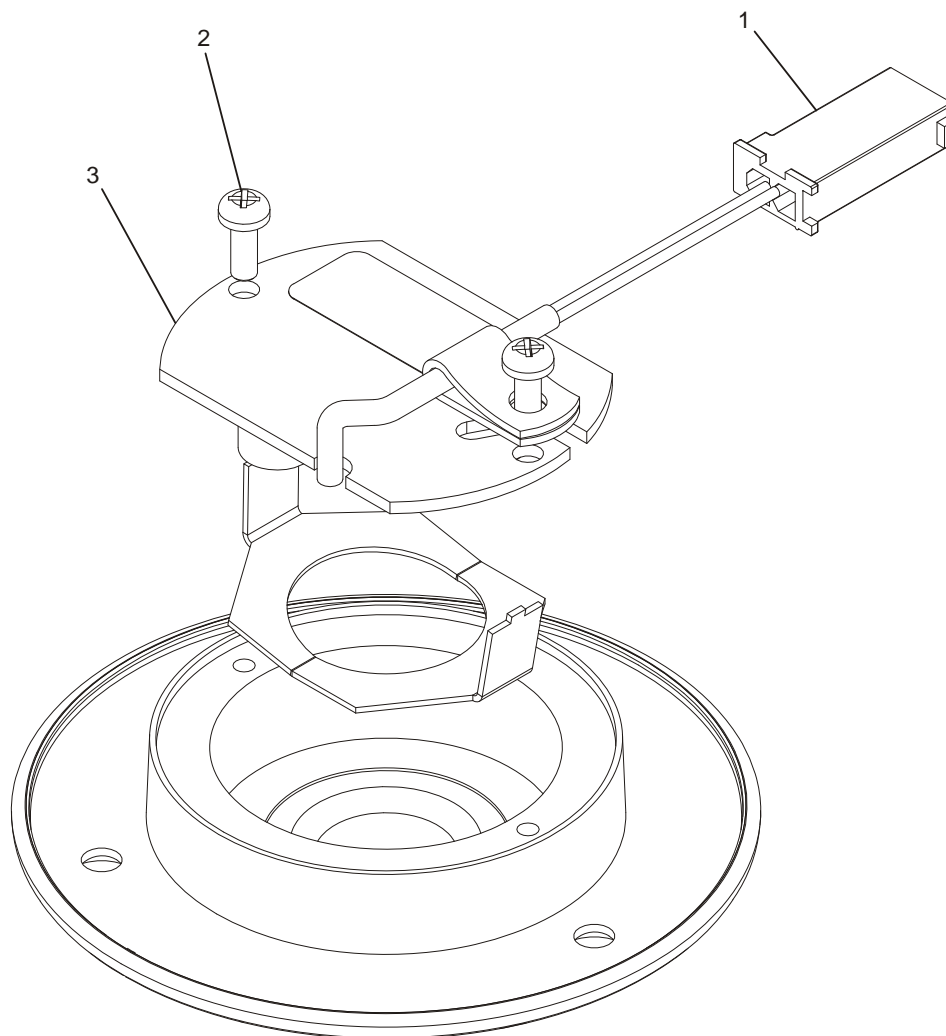

Figure 7-7: Replace Door Closing Indicator
3. Disconnect the 2-circuit plug (1, Figure 7-7).
4. Remove two 3 x 8 mm (1/8 x 5/16 inch) Phillips head screws (2) from the back of the LED lamp assembly (3).
5. Install replacement LED lamp assembly (3) with attached 2-circuit plug (1) using two 3 x 8 mm (1/8 x 5/16 inch) Phillips head screws (2).